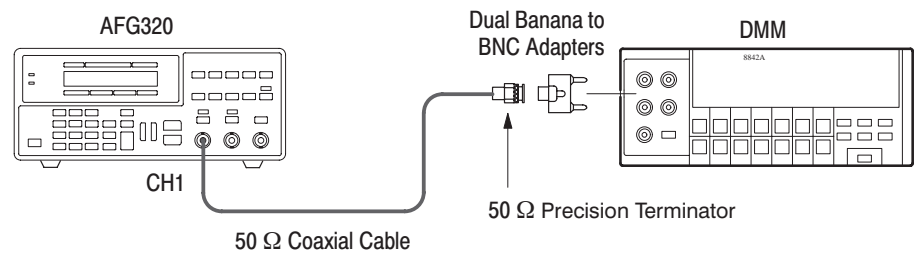

Figure B-3: Initial Test Hookup
1. Use a 50 Ω coaxial cable to connect the CH1 output of the function generator to a 50 Ω precision terminator on the input of the digital multimeter (DMM). Refer to Figure B-3.
Use a 50 Ω coaxial cable to connect the CH1 output of the function generator to a 50 Ω precision terminator on the input of the digital multimeter. Refer to Figure B-3.